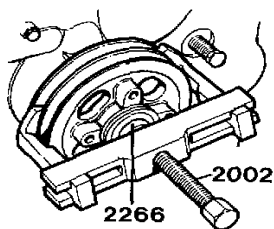

Fig. 187.
3. Fit the drift, 2266 into the belt pulley shaft journal. Pull off the belt pulley using 2002 (fig. 187).